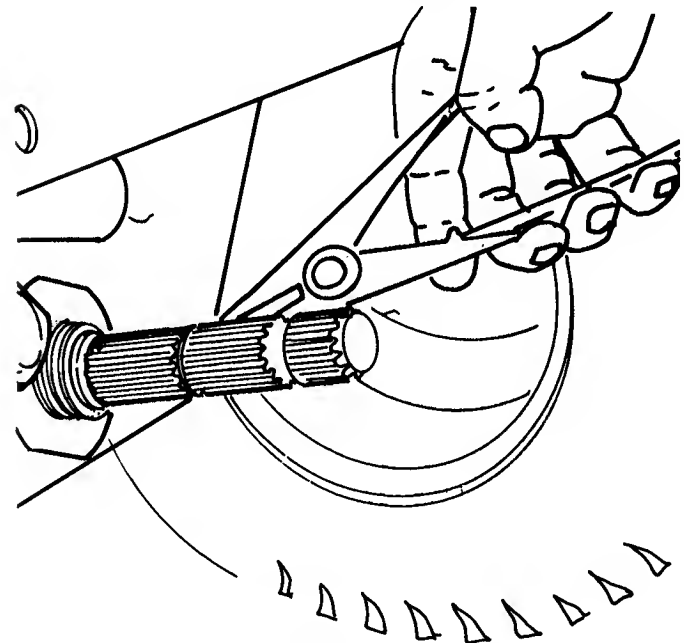

FIG. 2.23 — REMOVING RETAINING RING
4. Remove retaining ring from shaft. Fig. 2.23.